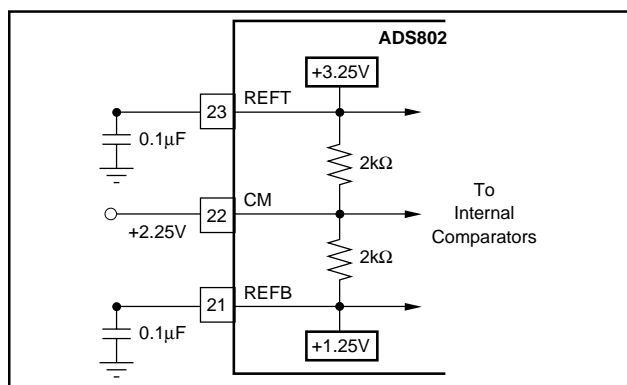

FIGURE 3. Internal Reference Structure.
The analog input of the ADS802 can be configured in various ways and driven with different circuits, depending on the nature of the signal and the level of performance desired. The ADS802 has an internal reference that sets the full-scale input range of the A/D converter. The differential input range has each input centered around the common-mode of +2.25V, with each of the two inputs having a full-scale range of +1.25V to +3.25V. Since each input is 2Vp-p and 180° out-of-phase with the other, a 4V differential input signal to the quantizer results. As shown in Figure 3, the positive full-scale reference (REFT) and the negative full-scale (REFB) are brought out for external bypassing. In addition, the common-mode voltage (CM) may be used as a reference to provide the appropriate offset for the driving circuitry. However, care must be taken not to appreciably load this reference node. For more information regarding external references, single-ended input, and ADS802 drive circuits, refer to the applications section.